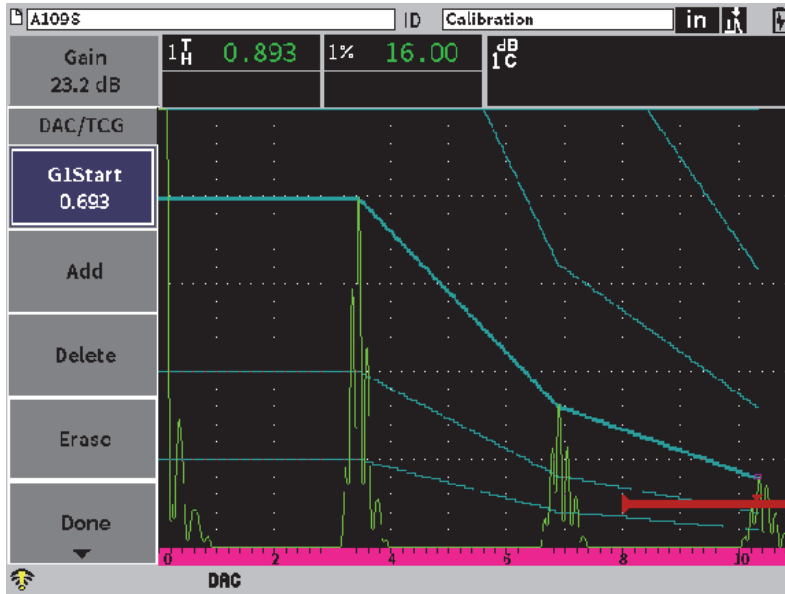

Figure 11-16 JIS curves
- Adjust the G1 Start value and use the **Add** button to add points and build the desired DAC curve (see Figure 11-16 on page 190).